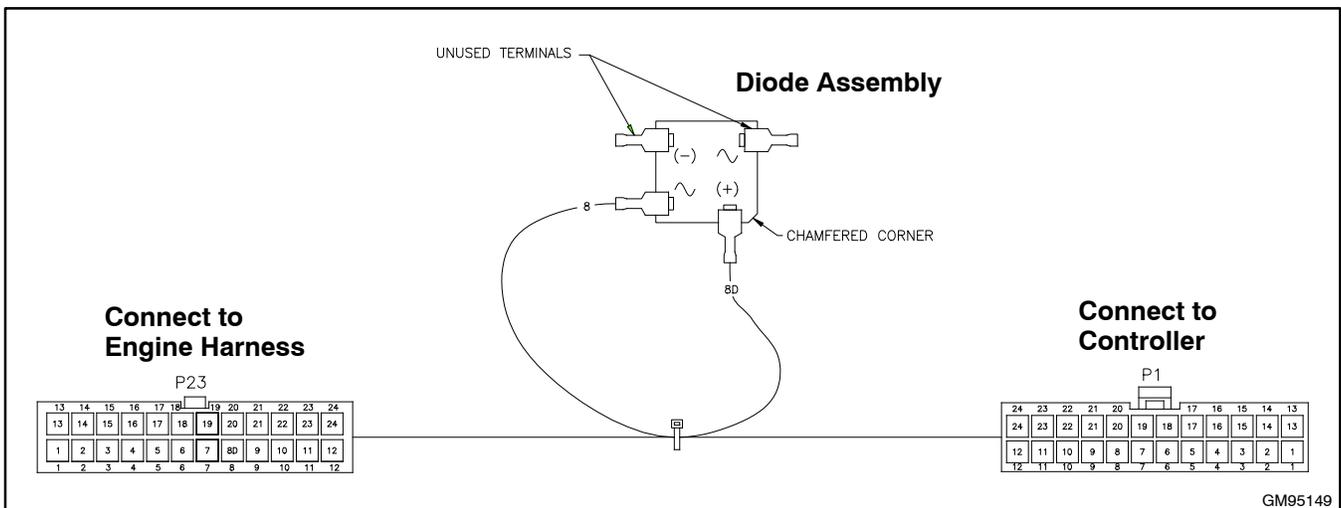
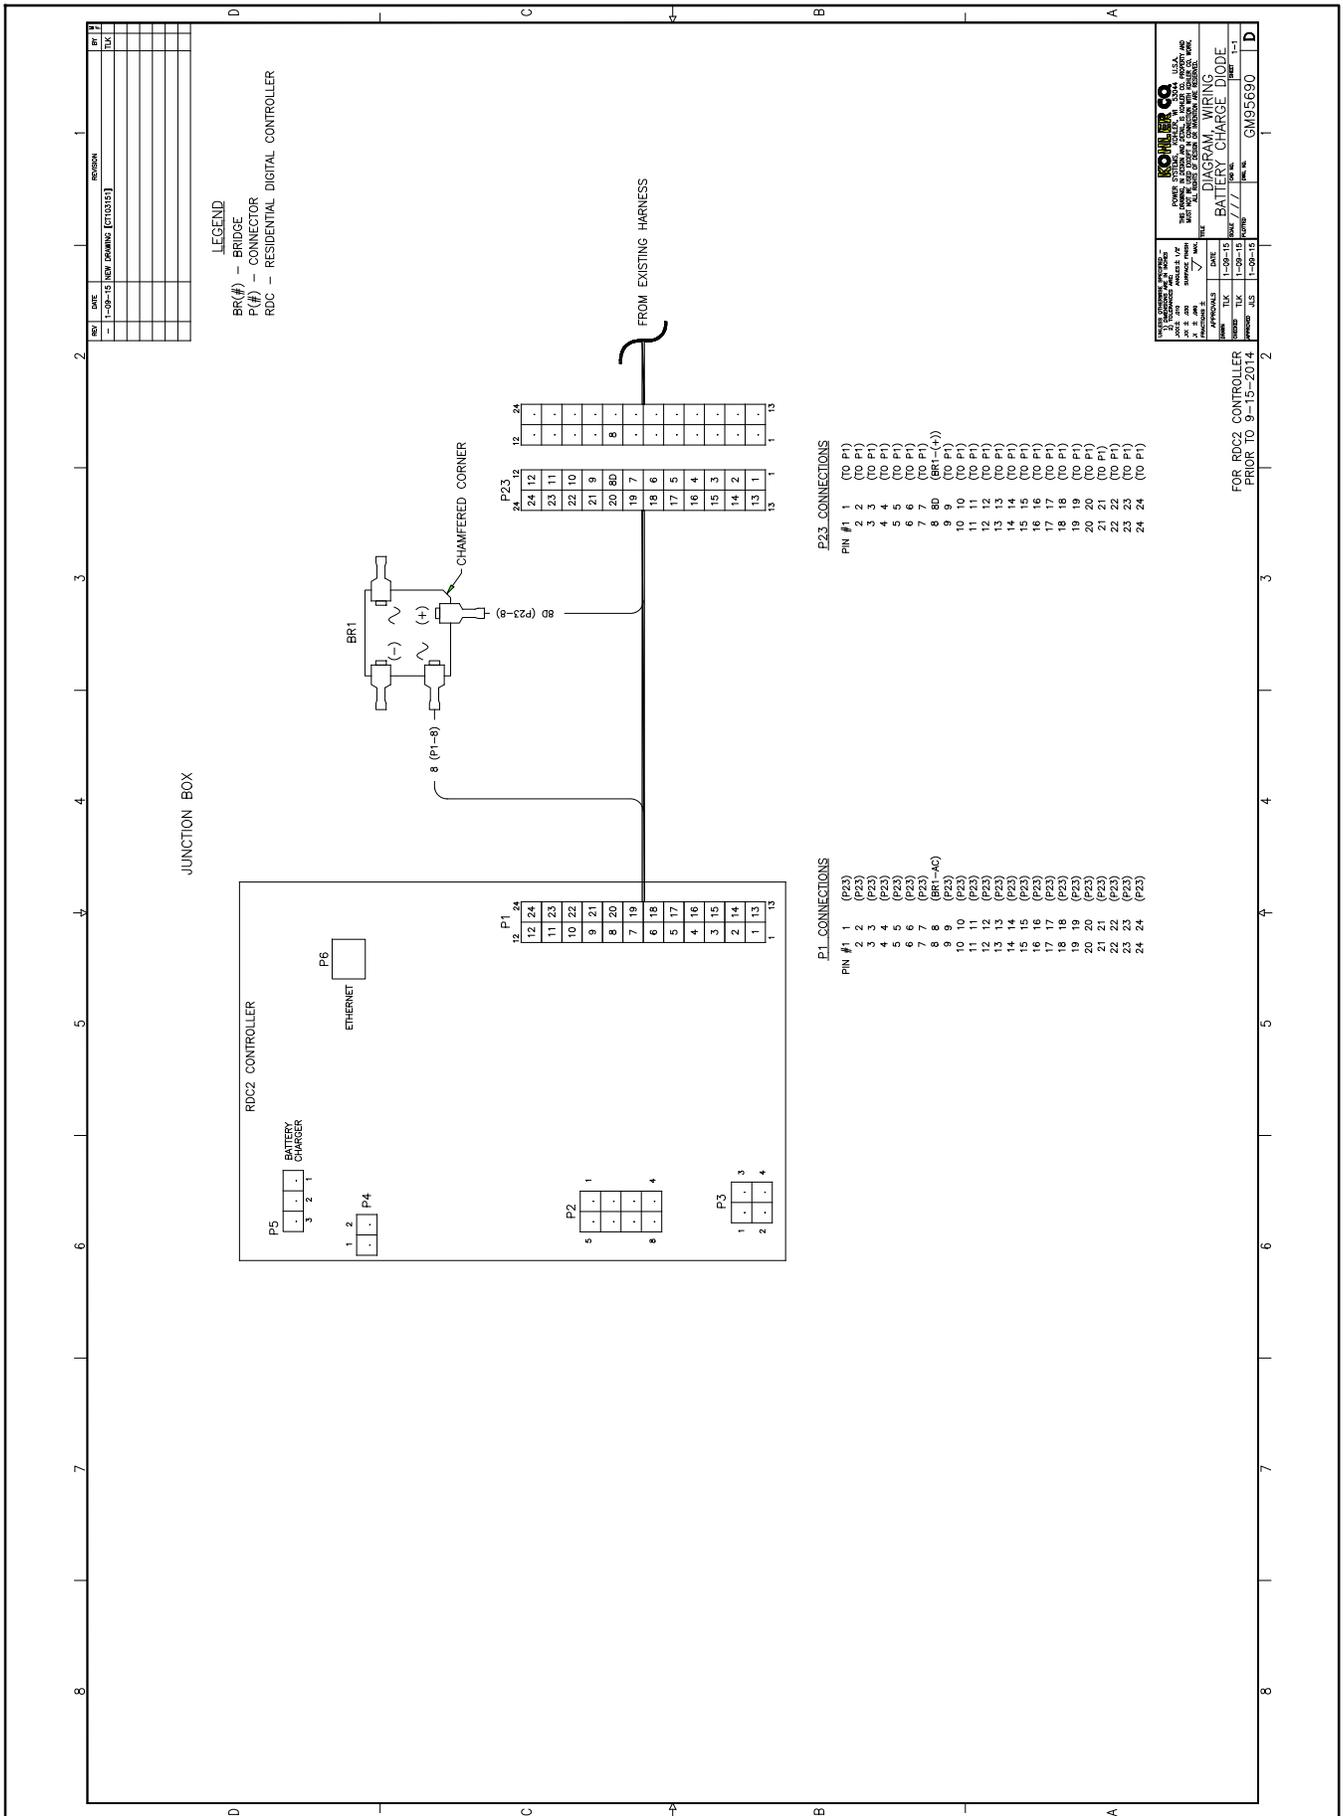

Figure 12 Harness with Diode, GM95149
Figure 13 Diode Harness Wiring Diagram GM95690
See Figure 12 for the diode harness illustration.
- Disconnect the engine harness from the controller at the 24-pin connector. See Figure 2 or Figure 13.
- Connect P1 of diode harness GM95149 to P1 on the controller. See Figure 12 and Figure 13.
- Connect P23 of the diode harness to the 24-pin connector on the engine harness. See Figure 12 and Figure 13.
- Install the controller onto the junction box using the two (2) screws removed in step 5.